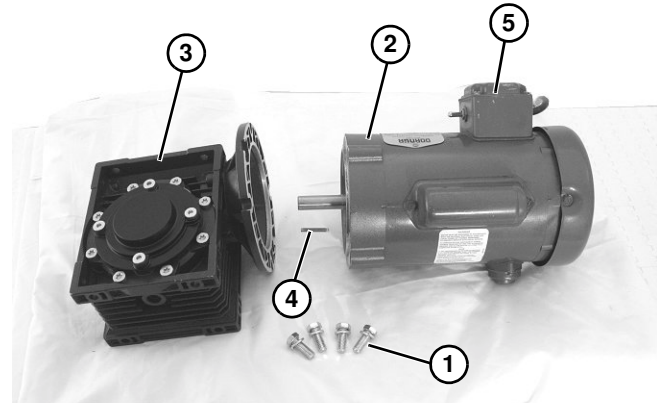

Figure 19
1. Remove four (4) screws (Figure 19, item 1). Detach motor (Figure 19, item 2) from gear reducer (Figure 19, item 3). Retain motor output shaft key (Figure 19, item 4).
2. With key (Figure 19, item 4) in keyway, slide motor (Figure 19, item 2) and gear reducer (Figure 19, item 3) together, noting where position of switch (Figure 19, item 5) will be during installation on conveyor.
3. Install screws (Figure 19, item 1) and tighten to 60 in-lb (7 Nm).